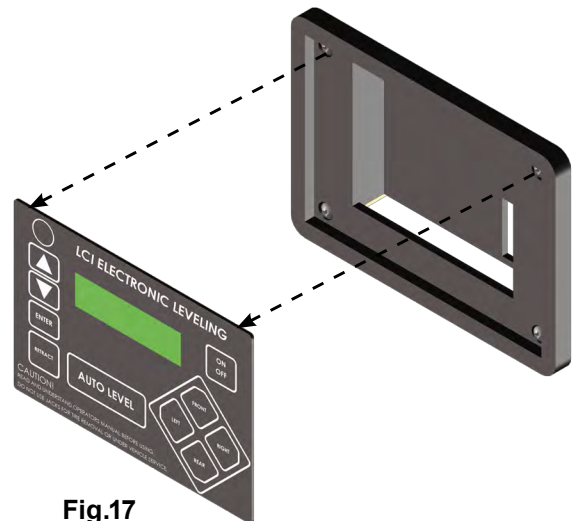

Fig.17
2. Remove the face plate of the touch pad from the mounting bezel (Fig. 17).